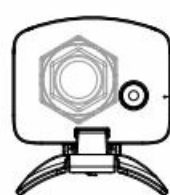

Figure 1
- **Figure 1:** Diagram of the device
- Red/green / orange led for signaling device status (Figure 1)